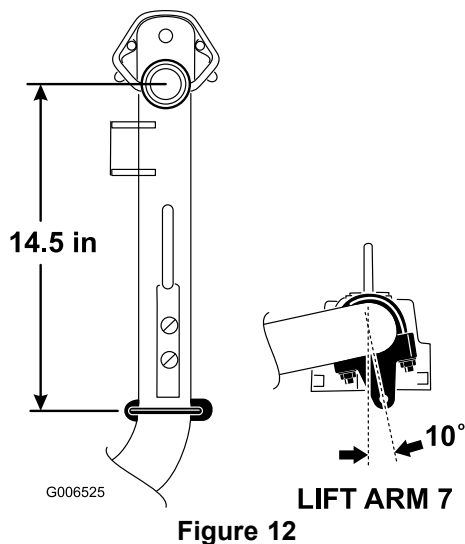

Figure 12
- On lift arms #6 and #7, position the brackets and U-bolts 14.5 inches behind the center line of the pivot knuckle (Figure 12). Rotate the brackets 10 degrees to the outboard side of the machine.